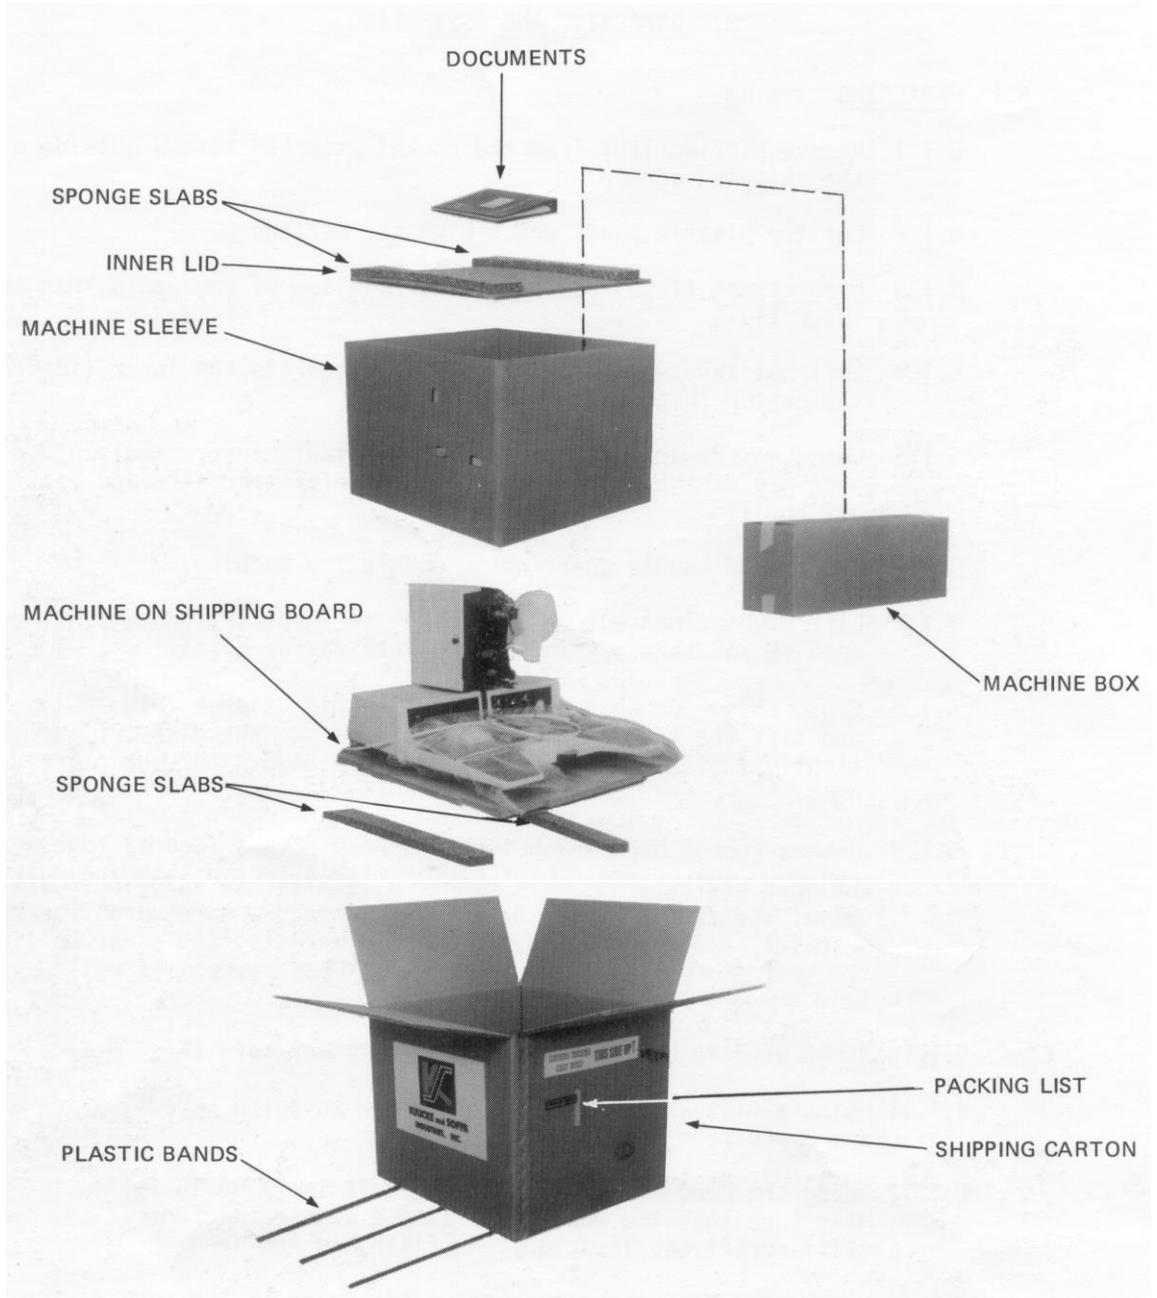

FIG. 5-1 BONDER PACKAGING - EXPLODED VIEW
- 5.1.4 Lift out the two sponge slabs that separate the inner lid from the carton (Figure 5-1).
- 5.1.8 Grasp the upper wood stick of the machine sleeve (Fig 5-1) and lift the sleeve out of the carton. As the sleeve fits tightly inside the carton, hold carton down with your other hand.
- 5.1.13 Unwrap the area light by cutting the twine at the ends of the woven sponge sleeve and slipping the sleeve off (Fig 5-1).